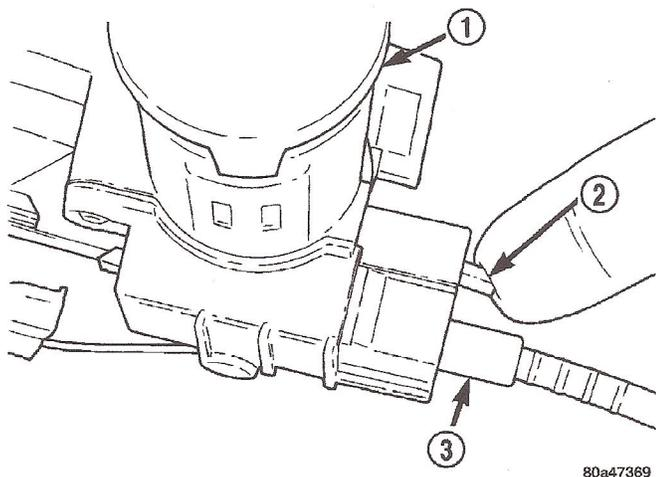
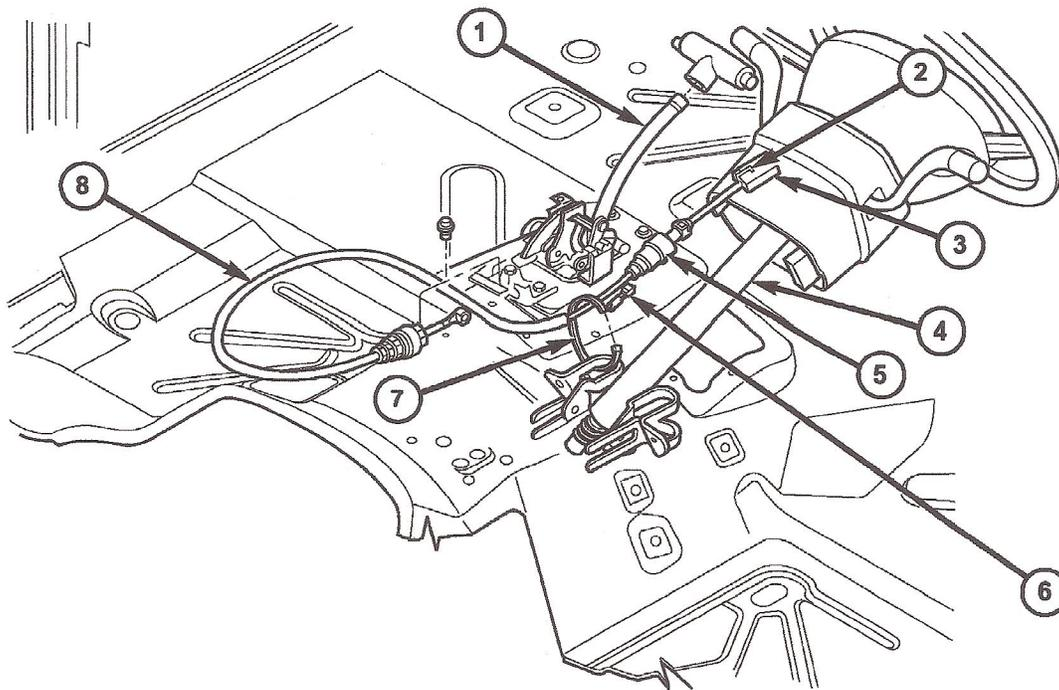

Fig. 151 Brake/Park Interlock Cable
Fig. 152 Cable and Shifter
- (1) Remove lower steering column cover. (Refer to 23 - BODY/INSTRUMENT PANEL/STEERING COLUMN OPENING COVER - REMOVAL)
- (2) Remove lower steering column shroud.
- (3) Remove tie strap near the solenoid retaining the brake transmission interlock cable to the steering column.
- (4) Disengage wire connector from solenoid.
- (5) With the ignition removed or in the unlocked position, disengage lock tab holding cable end to steering column (Fig. 151).
- (6) Pull cable end from steering column.
- (7) Remove the floor console and related trim. (Refer to 23 - BODY/INTERIOR/FLOOR CONSOLE - REMOVAL)
- (8) Disconnect the cable from the bellcrank (Fig. 152).
- (9) Disconnect and remove the cable from the shift bracket.